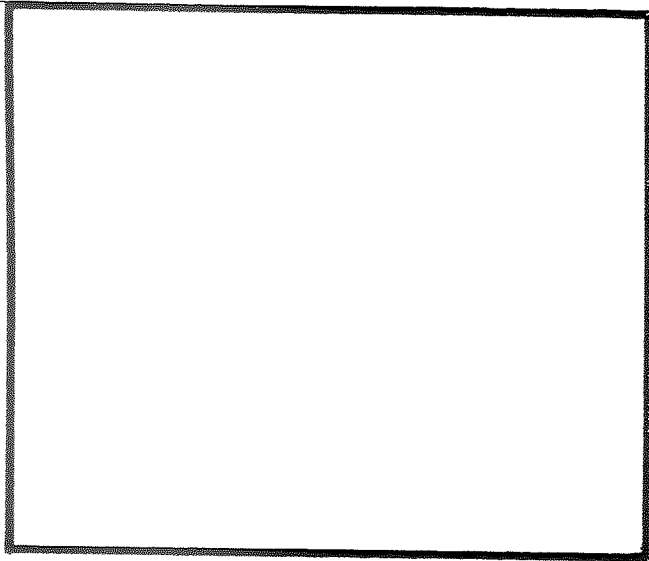

FIGURE 6
1. To connect truck hitch to rear of asphalt truck, extend the arm extensions of the truck hitch by pulling on arm extension lever. See figure 6.